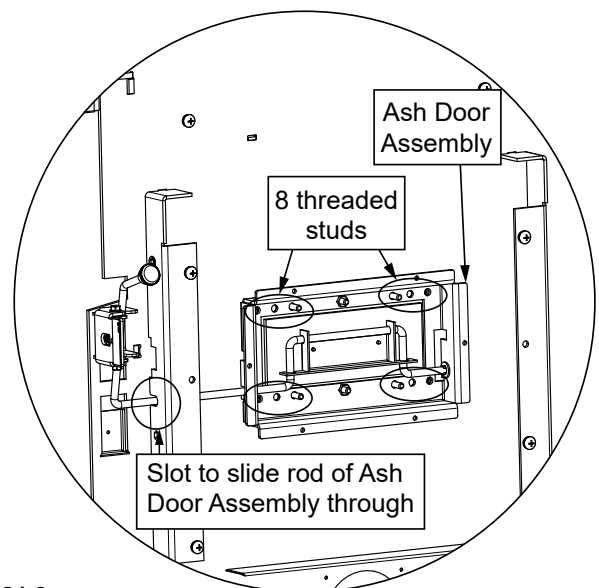

Figure 21.3
7. Install ash door assembly by sliding the rod at an angle into the slot on the left side (**Figure 21.3**).
8. Slide the ash door over the 8 screws protruding from the bottom of the appliance. Secure with nuts and washers using 7/16 socket wrench (**Figure 21.3**).
9. Install ARS latch by sliding latch assembly over 2 threaded studs protruding from the bottom on the left hand side of the appliance. Secure by using two nuts use 7/16 socket wrench (**Figure 21.3**).
7. Install ash door assembly by sliding the rod at an angle into the slot on the left side (**Figure 21.3 on page 21**).
8. Slide the ash door over the 8 screws protruding from the bottom of the appliance. Secure with nuts and washers using 7/16 socket wrench (**Figure 21.3 on page 21**).